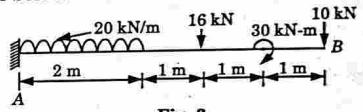

Fig. 3.
- Q. 5. Draw the SFD and BMD of the loaded beam as shown in Fig. 3 below.